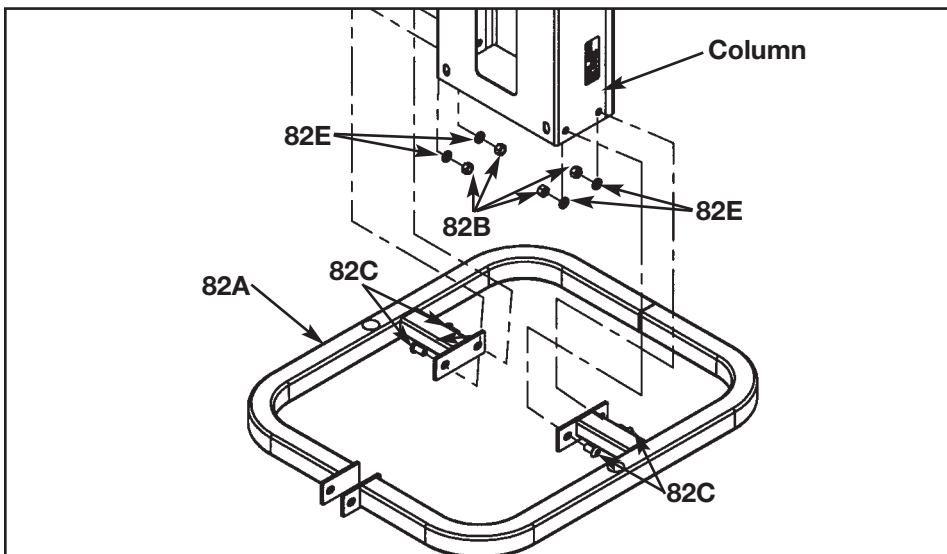

Figure 10
- C. With an assistant, carefully place column into stabilizer (#82A) then attach hardware as shown in Figure 10.